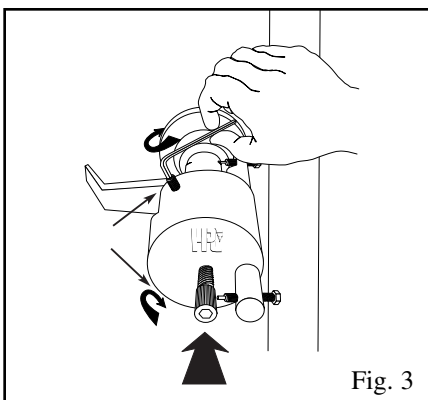

Fig. 3
3. Keeping the Hub centered on the handle, tighten the two Holding Bolts equally to lock Hub onto lever lock handle (see fig. 3). **Do not over-tighten. Care should be taken so as not to crush the nylon tips.**